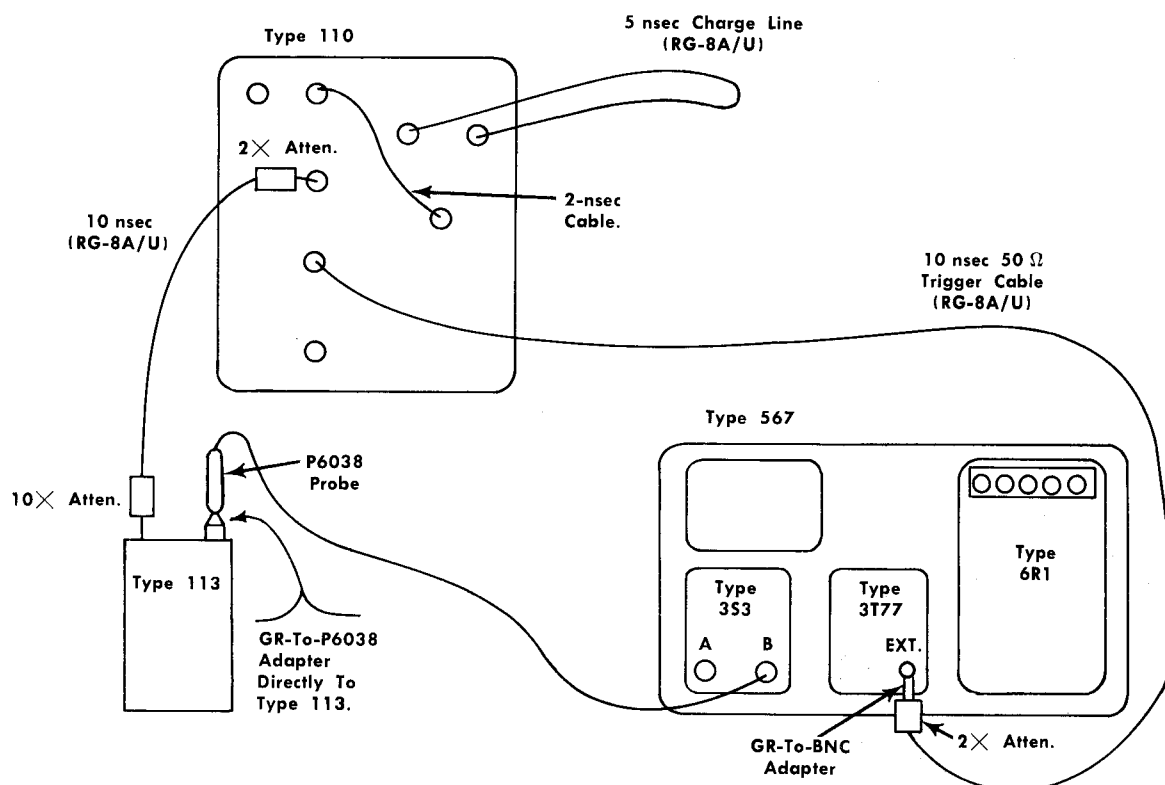

Fig. 5-2. Type 110, Type 113 system for setting risetime.
- a. Set up the Type 110, Type 113 system as in Fig. 5-2.